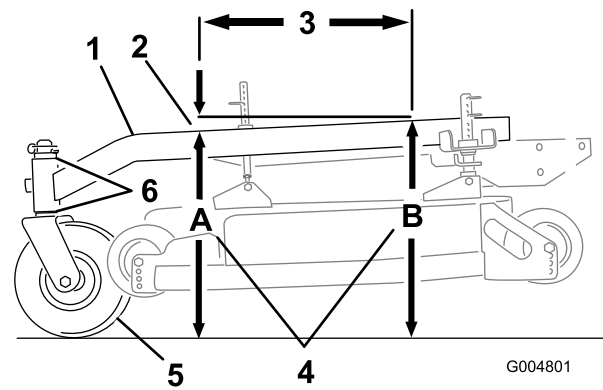

Figure 63
2. Measure carrier frame height at location **A** (Figure 63).
3. Measure carrier frame height at location **B** (Figure 63).
4. The height at location **A** must be a 1/4-3/8 inch (6 mm -10 mm) lower than location **B** (Figure 63).
5. If the carrier frame is not correct, move caster spacers to make it a 1/4-3/8 inch (6 -10 mm) pitch (Figure 63). Move spacers from top or bottom to make the correct pitch.
The carrier frame must have a pitch between 1/8 inch (3 mm) to 3/8 inch (9 mm) over the length of 24 inches (61 cm) on the carrier frame (Figure 63).
1. Measure out 24 inches (61 cm) on the carrier frame (Figure 63).